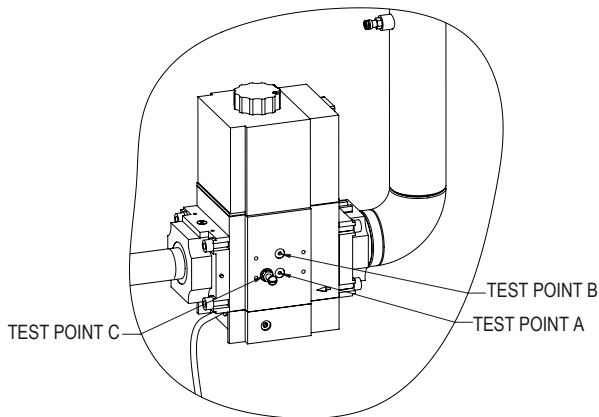

Figure 91. Gas Pressure Measurement Locations
2. Attach (1) 12" scale manometer to an upstream bleedle valve on the gas supply pipe to the boiler (Measure point "A" in **Figure 91**).
3. Attach (1) 24" scale manometer to the manifold pressure tap located near the shutoff valve downstream of the firing valve (Measure point "C" in **Figure 91**).
1. Check manifold gas pressure at the gas valve outlet pressure tap (test point "C" in **Figure 91**). Refer to **Table AE** and **Table AG** for natural and propane gas pressure ranges and tolerances.